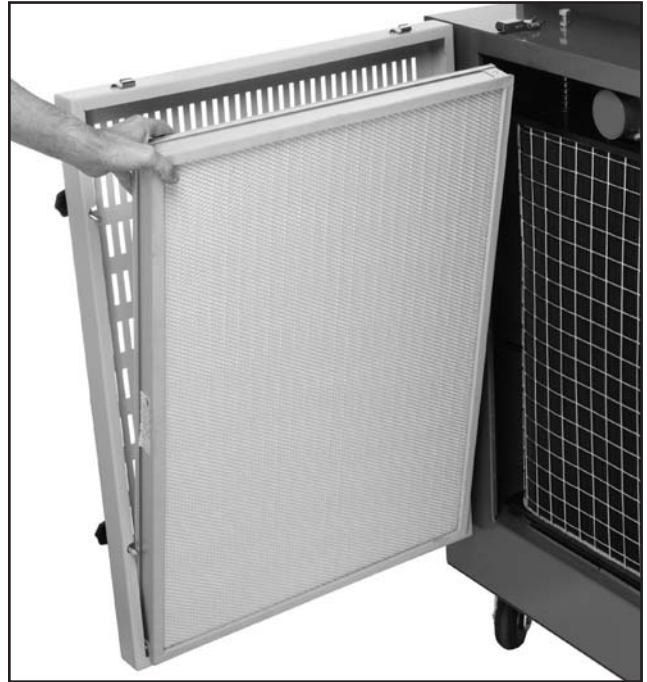

Figure 42. Removing HEPA filter.
3. Lift the HEPA filter from the filter housing (**Figure 42**).